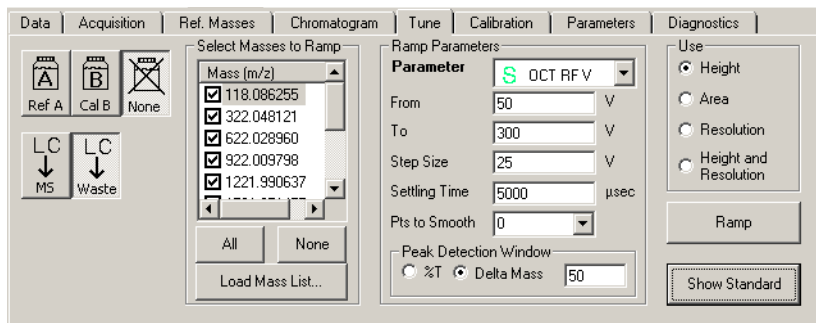

Figure 10 Extended Tune tab
- 1 On the Extended Tune tab (Figure 10 on page 32), ramp the values of selected parameters within a selected range for selected masses.